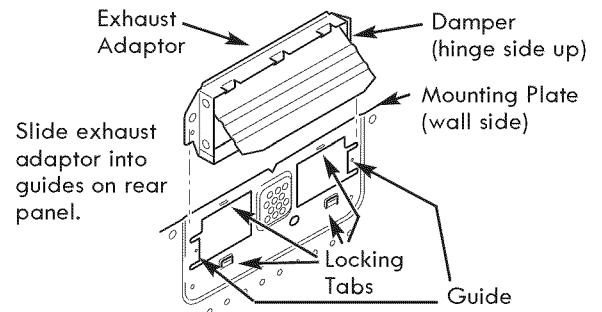

Figure 29
- Carefully guide the exhaust adaptor, now attached to the mounting plate, into the house duct, before using the screws to attach the plate to the wall. This will assure proper alignment for installation. See Figure 29.